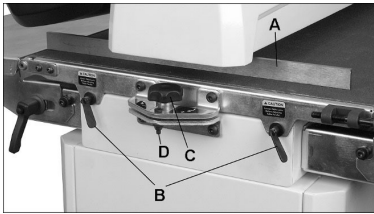

Figure 8-4: drum alignment
3. Insert gauge (A, Figure 8-4) between drum and conveyor table at outboard side.
7. Loosen both table locks (B, Figure 8-4)
Note: When sanding narrow stock (less than 16"), return conveyor table to parallel position. Turn knob opposite direction until lock nut (D, Figure 8-4) is contacted. The lock nut provides a positive stop for table parallelism.